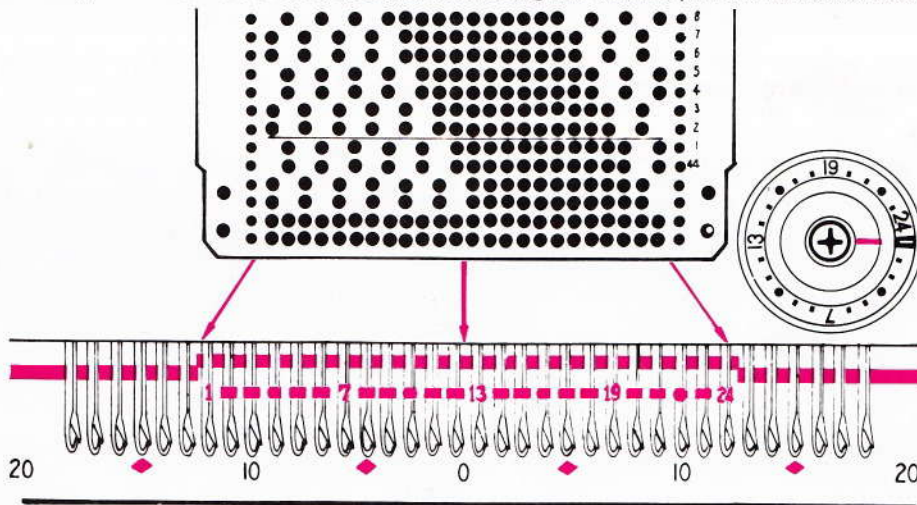

Fig. 155
- When the dials are placed on 1, the pattern on the card is repeated every 24 stitches to correspond with the groups of 24 stitches indicated by the red line under the needles as described on page 11. The punched hole on the left hand side of the card corresponds to needle 1 of the needle bed (as shown in fig. 155).